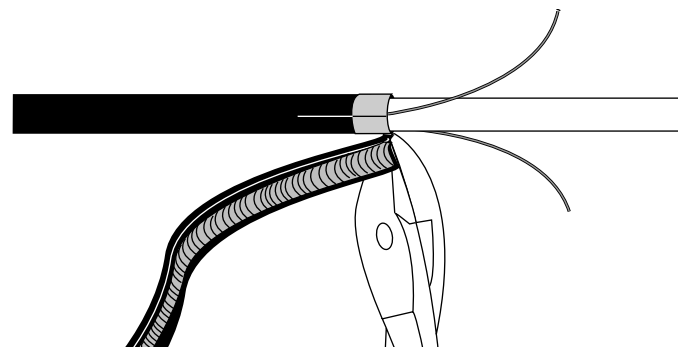

Figure 12
4.17 Carefully flex the sections of armor and sheath and remove them. Side cutters may be helpful in removal (Figure 12).